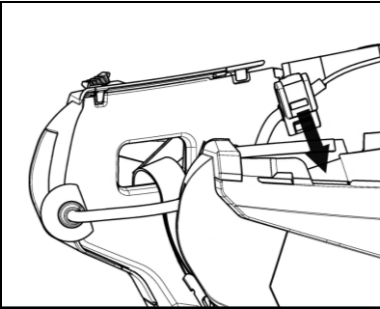

Fig. 8
- Fix the cable inside the helmet and make sure the right fixing clip snaps into its housing (Fig. 8).